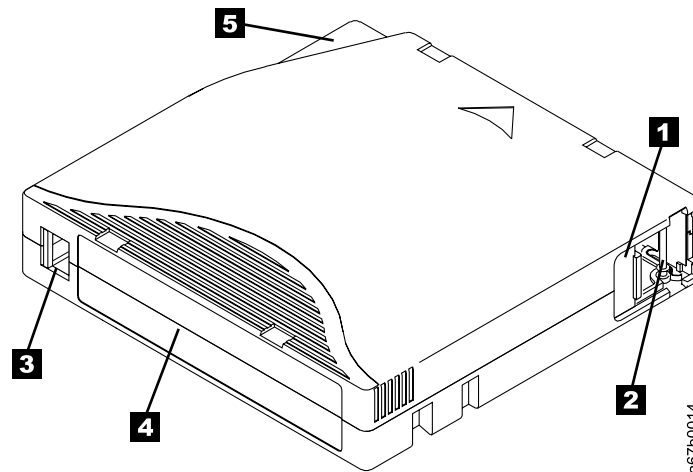

Figure 7. The IBM LTO Ultrium Data Cartridge
Figure 7 shows the IBM LTO Ultrium Data Cartridge and its components.
The cartridge door ( **1** in Figure 7 on page 25) protects the tape from contamination when the cartridge is out of the drive. Behind the door, the tape is attached to a leader pin **2**. When you insert the cartridge into the drive, a threading mechanism pulls the pin (and tape) out of the cartridge, across the drive head, and onto a non-removable takeup reel. The head can then read or write data from or to the tape.
- Position the label within the recessed label area (see **4** in Figure 7 on page 25).